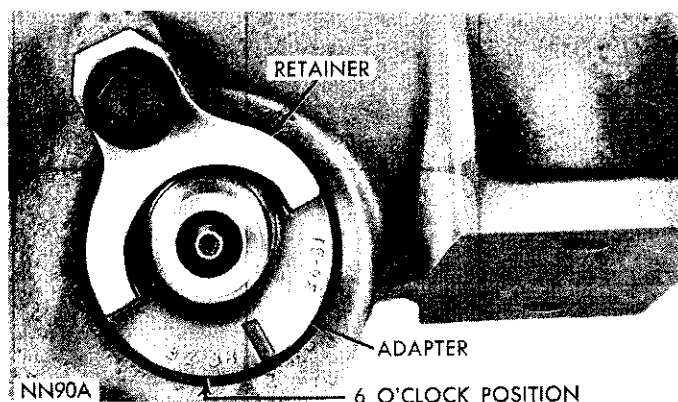
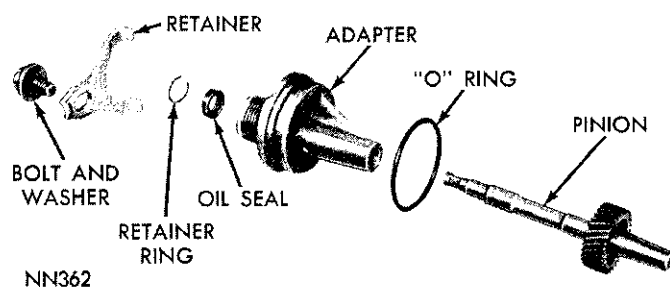
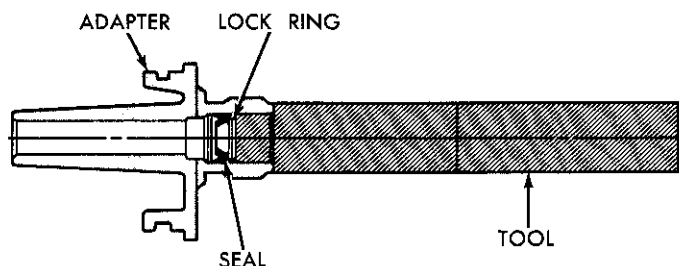

Fig. 40—Speedometer Pinion and Adapter—Installed in Extension Housing
Fig. 41—Speedometer Pinion and Adapter—Disassembled
Fig. 42—Installing Speedometer Pinion Seal in Adapter
(39) Install speedometer drive pinion gear and adapter being sure range number, stamped on outside of adapter, representing number of teeth on gear, is in 6 "O" clock position (Fig. 40).
(1) Place drain pan under adapter or drain transmission.
(2) Remove bolt and retainer securing speedometer pinion adapter to extension housing (Fig. 40).
(3) With cable housing connected, carefully work adapter and pinion out of extension housing.
(4) If transmission fluid is found in cable housing, replace seal in the adapter (Fig. 41). Start seal and retainer ring in adapter, then push them into adapter with Tool C-4004 until tool bottoms (Fig. 42).
(5) Note number of gear teeth and install speedometer pinion gear into adapter (Fig. 41).
(6) Rotate the speedometer pinion gear and adapter assembly so that the number on the adapter, corresponding to the number of teeth on the gear, is in the 6 o'clock position as the assembly is installed (Fig. 40).
(7) Install retainer and bolt, with retainer tangs in adapter positioning slots. Tap adapter firmly into extension housing and tighten retainer bolt to 100 inch-pounds.
(8) Fill transmission to level of fill plug (Refer to Lubrication Section).